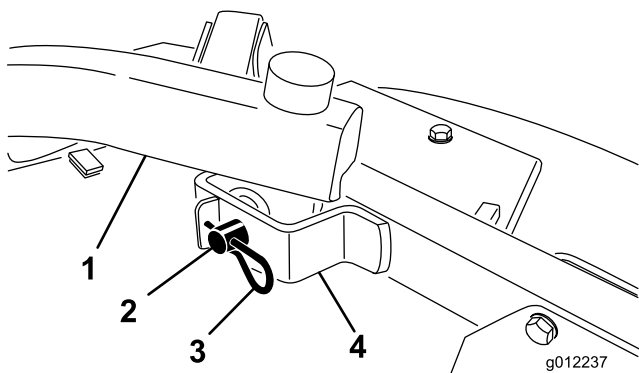

Figure 21
4. Remove the hair pin coppers and clevis pins securing the lift arms to the castor arm brackets (Figure 21).